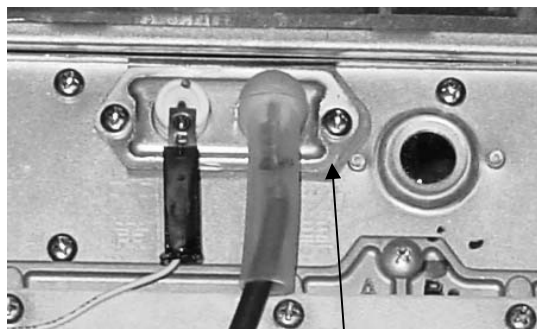

Figure 8 Electrode Gasket
25. Replace the electrode gasket. (Figure 8)